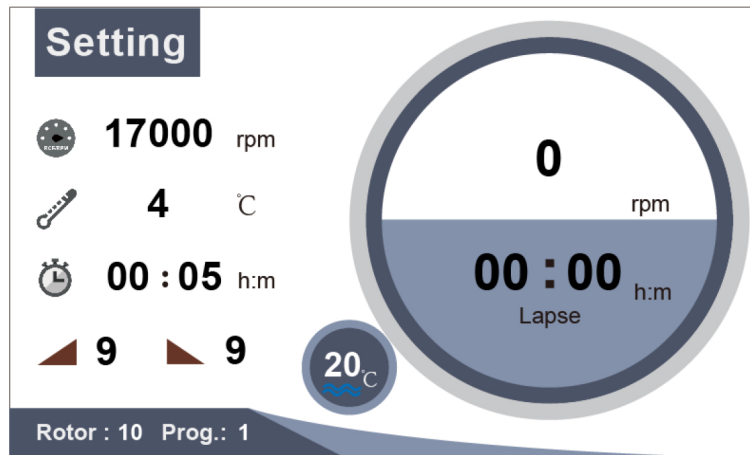

Figure 7-2 Preparation mode interface
■ This centrifuge will move to a preparing interface after self-checking, and display the running parameters of the last time. For example, the Figure 7-2 shows that the speed was set to be 17000rpm, the temperature was 4°C, the running time was 5 minutes, the acceleration rate was 9, the deceleration rate was 9, the rotor ID was 10, and the program group number was 1.
Figure 7-2 is only an example. User's setting parameters and running parameters may be different from it.